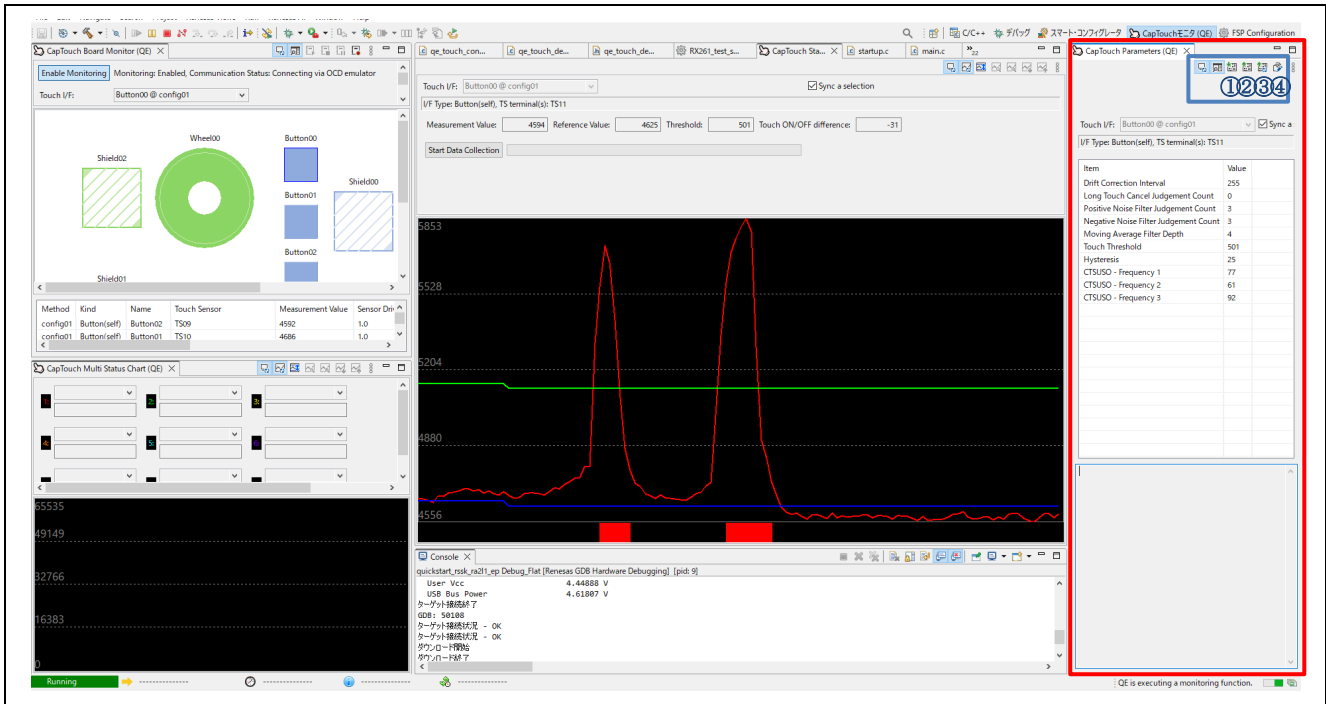

Figure 1-3 Manual Tuning with QE for Capacitive Touch
For Manual tuning, use the "CapTouch Parameters (QE)" in QE for Capacitive Touch (in red box in Figure 1-3). You can change the parameter and check the operation after adjusting it from the "CapTouch Status Chart (QE)" in real time. Parameters adjusted in this view can also be reflected in the source file. Refer to Table 1-2 for explanations of the functions of the "CapTouch Parameters (QE)" tool bar (in the blue frame in Figure 1-3) used when performing manual tuning. Parameters can be read and written to the application via the CapTouch Parameter icons.